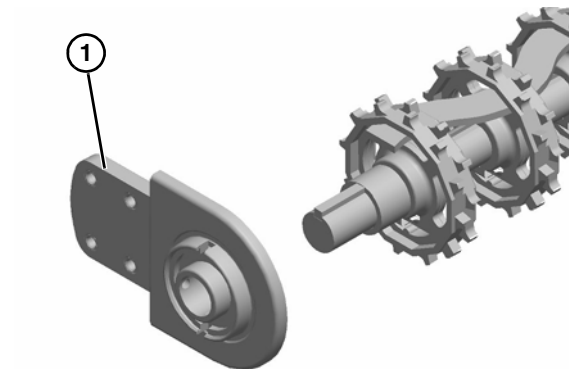

Figure 58
7. Slide the head plate with bearing (Figure 58, item 1) off the shaft.